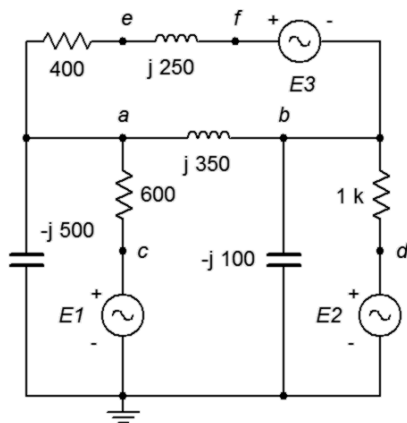

Figure 5.44
79. In the circuit of Figure 5.44, use any method or combination of methods to determine v_{ab} . $E1 = 5\angle 0^\circ$, $E2 = 10\angle 90^\circ$ and $E3 = 15\angle 0^\circ$.